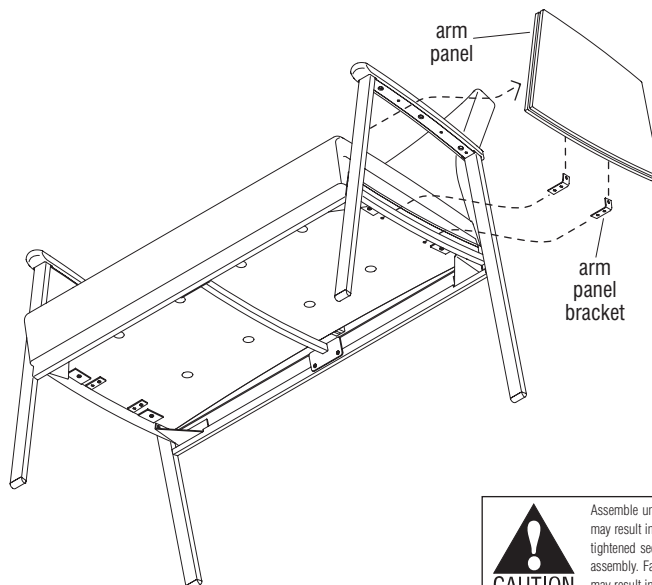

Figure 2
3. Pull the bottom of the panel, along with the arm panel brackets out from under the arm frame (Figure 2).